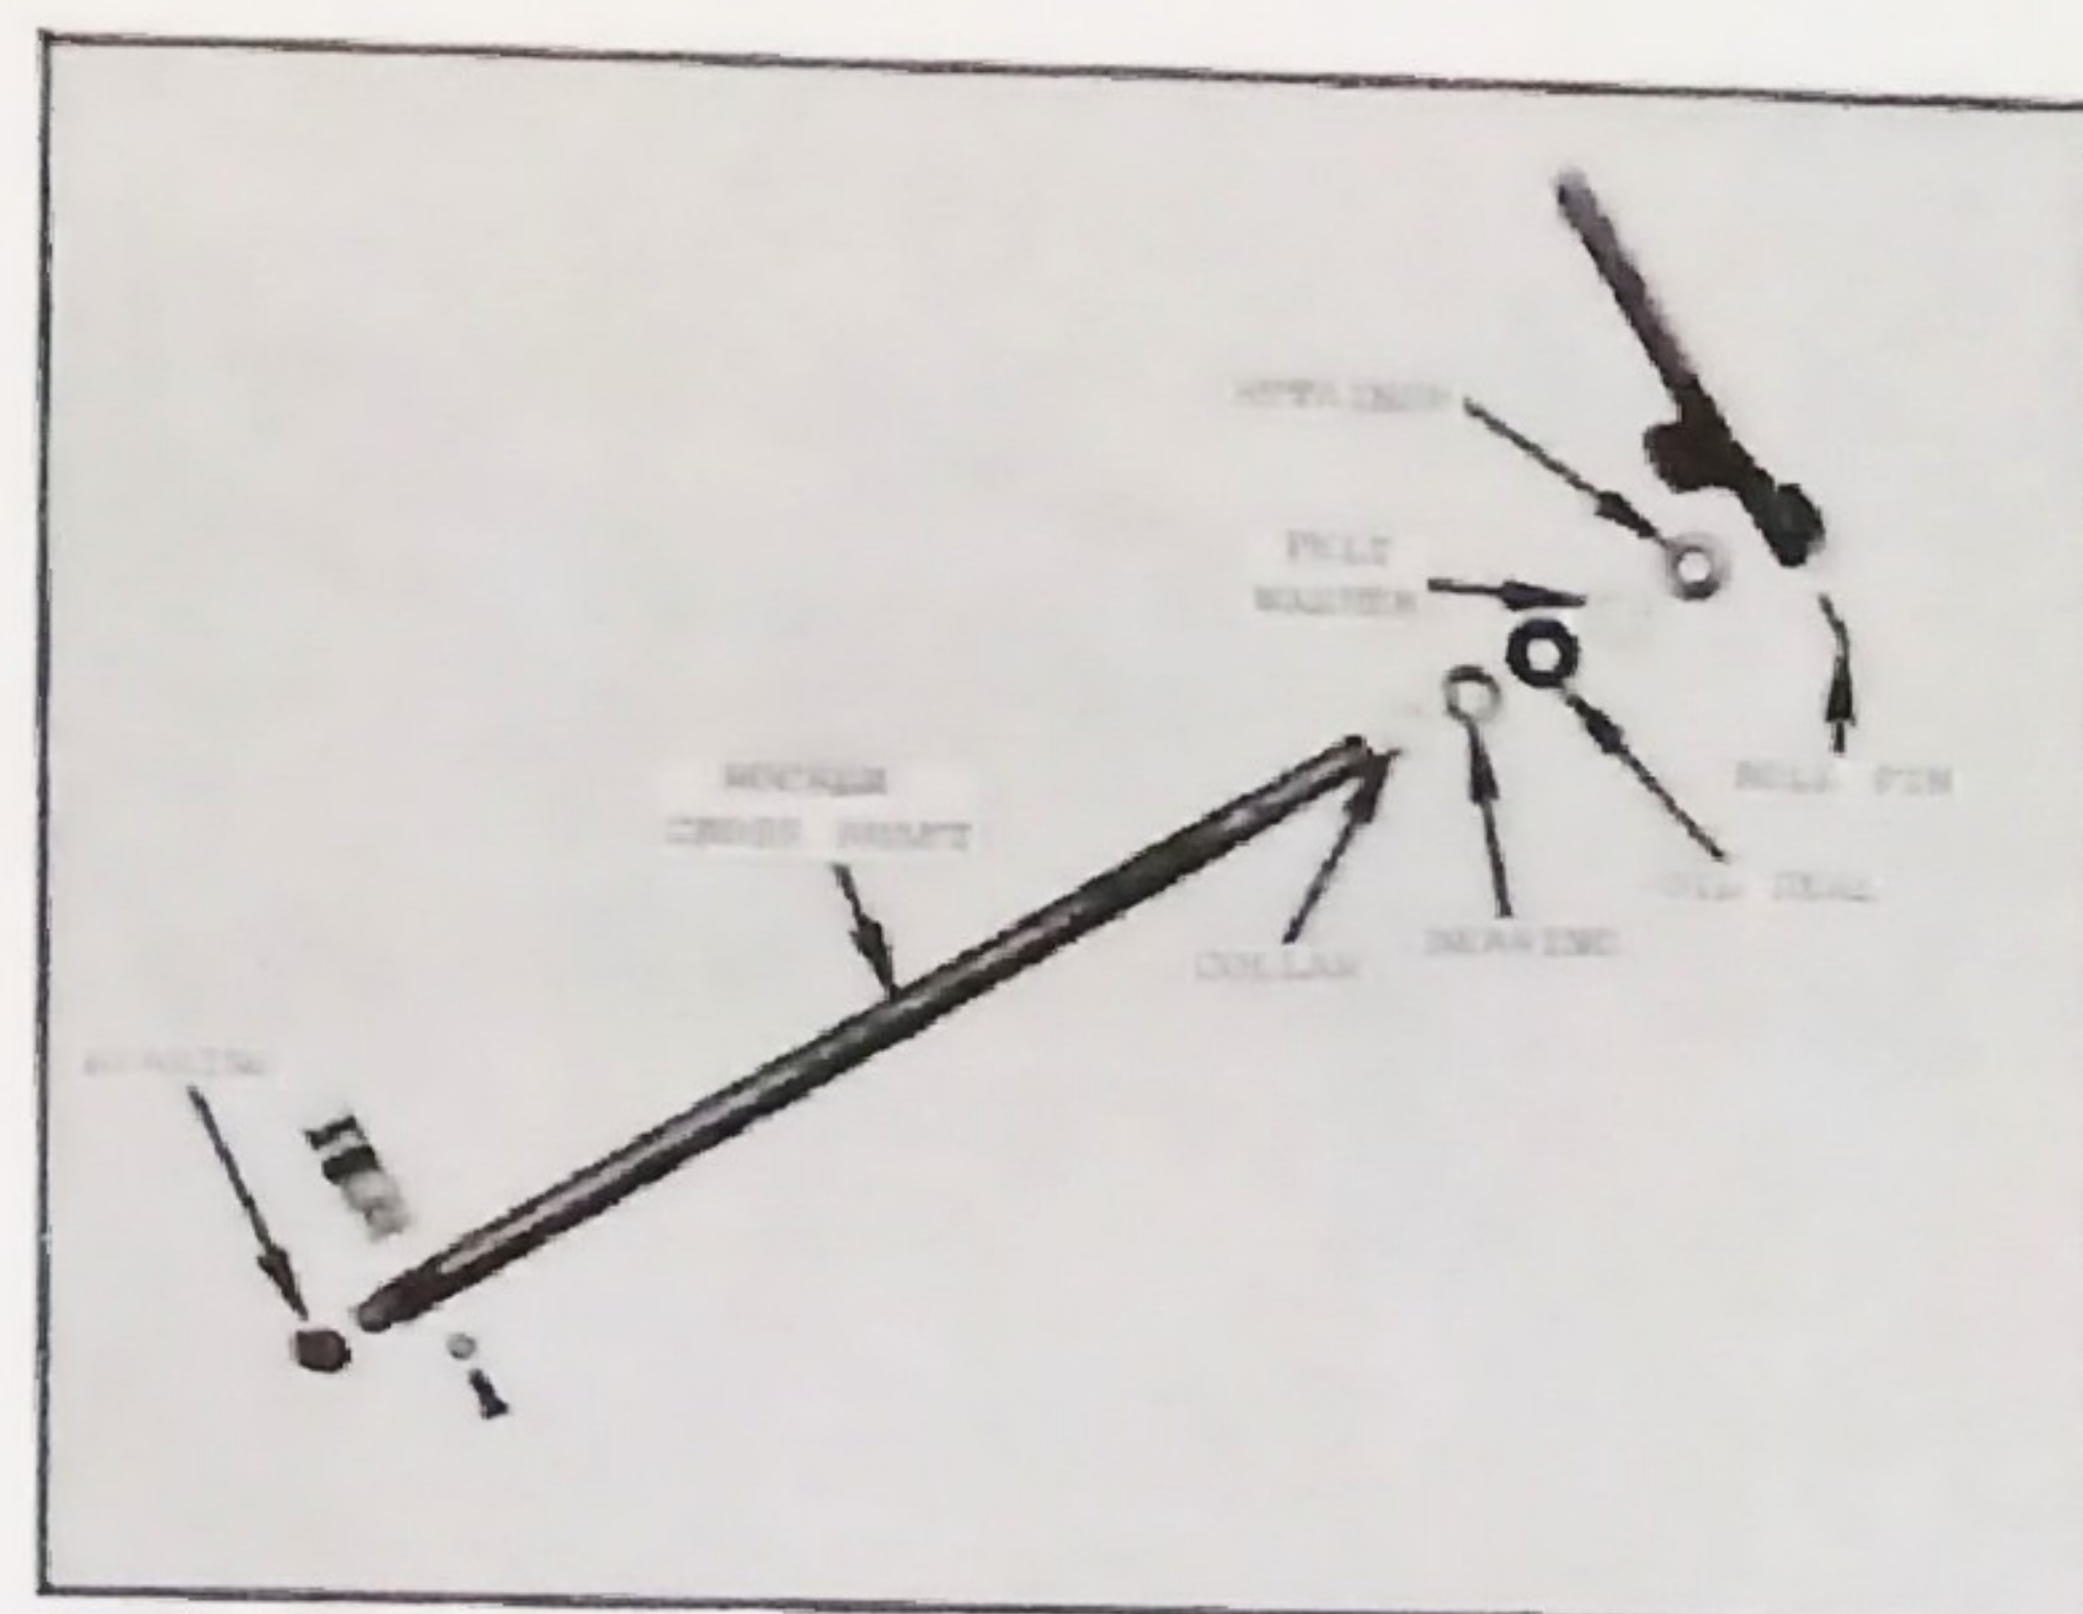

Fig. 32 - Governor Rocker Cross Shaft - Sequence of Parts
4. Press shaft in the opposite direction removing collar, bearing, oil seal, felt washer and retainer. Refer to Fig. 32.
1. Assemble collar, bearing, oil seal, felt washer and retainer on the shaft and press into cover. Refer to Figs. 32 and 31.